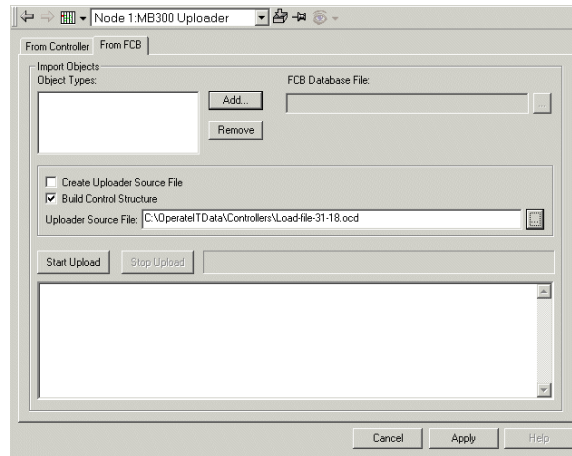

Figure 16. Creating the Control Structure for Node 31, 18
7. Select **Start Upload** and then click **Apply** to save the changes. Refer to Figure 16.